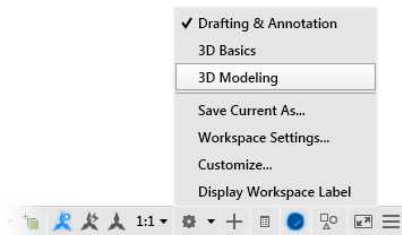

FIGURE 16.1: Switching to the 3D Modeling workspace from the status bar
2. Switch to the 3D Modeling workspace by using the Workspace Switching flyout on the status bar (see Figure 16.1).